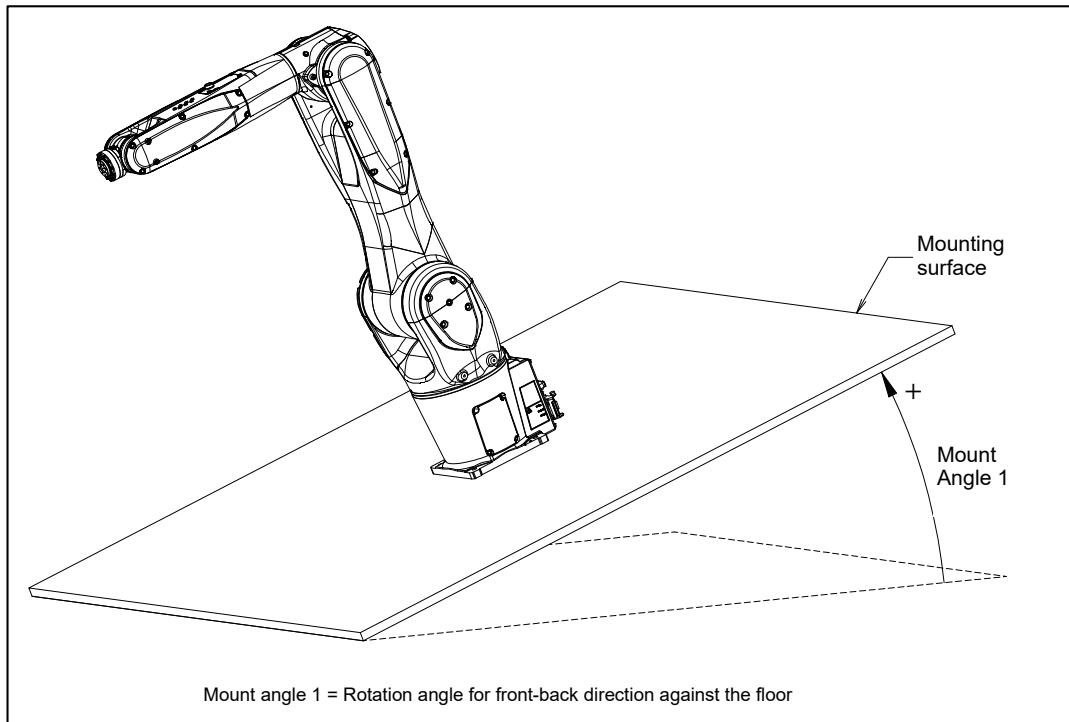

Fig. 1.2.1 (a) Robot mounting angle
- 7 Input the mount angle 1 referring to Fig.1.2.1 (a).